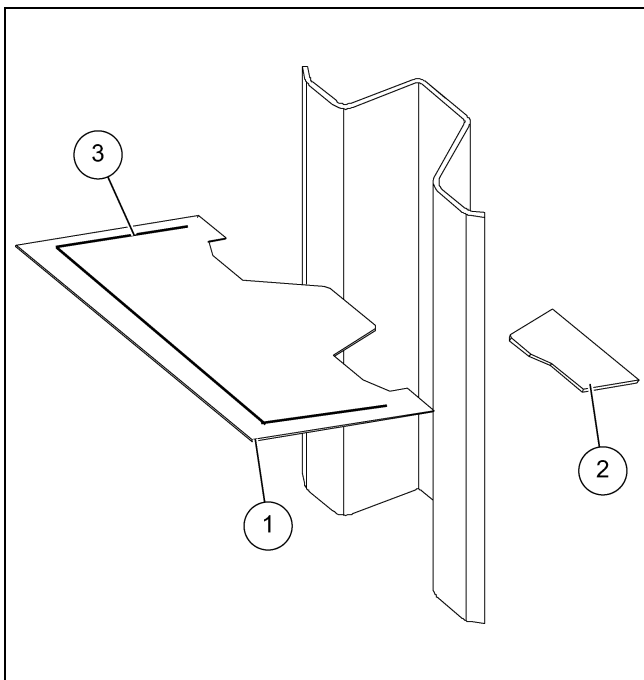

Figure 2
1. The air deflector included in seal kit (TR-5062) may be installed over stiffener (9) at customer's request.
2. Caulk stiffener/transition cover plates on one side of cover plate (10) along the three straight edges. *(See Figure 2.)*
3. Place stiffener-transition cover plate (10) on top of transition housing (4) and use the self-drilling screws (11) to fasten cover plate (10) to transition.
4. Repeat this procedure on the inside bottom of the transition housing (4). The cover plates (10) must be trimmed to fit properly on the bottom. Caulk (3) everything well when plates have been secured.